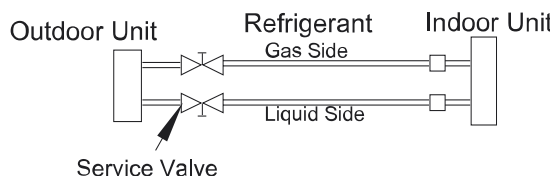

Fig. 22 —Service Valves
1. Completely tighten the flare nuts of the liquid and gas pipes on the indoor and outdoor side (for all fan coils) (see Fig 22).